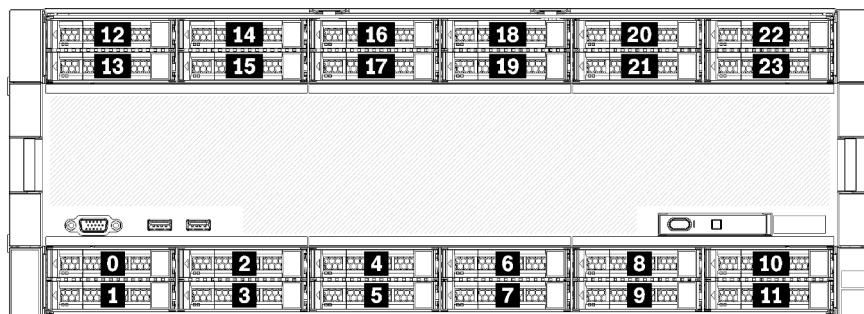

Figure 3. Drive bay locations
- Top two drives support SAS, SATA, or NVMe interface drives (Lenovo AnyBay). The server can support up to 12 NVMe drives, depending on the server configuration. The NVMe-capable drive bays are the even-numbered bays as shown in Figure 3 “Drive bay locations” on page 11.